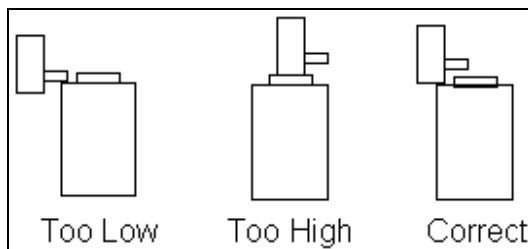

Figure 1 Z-Ram Height Test
- 21.3. Using the Go/No-Go gage, P/N 9119925, check the Z-Ram height. The short portion of the tool should pass under the Z-Ram and the tall portion should not (see Figure 1).